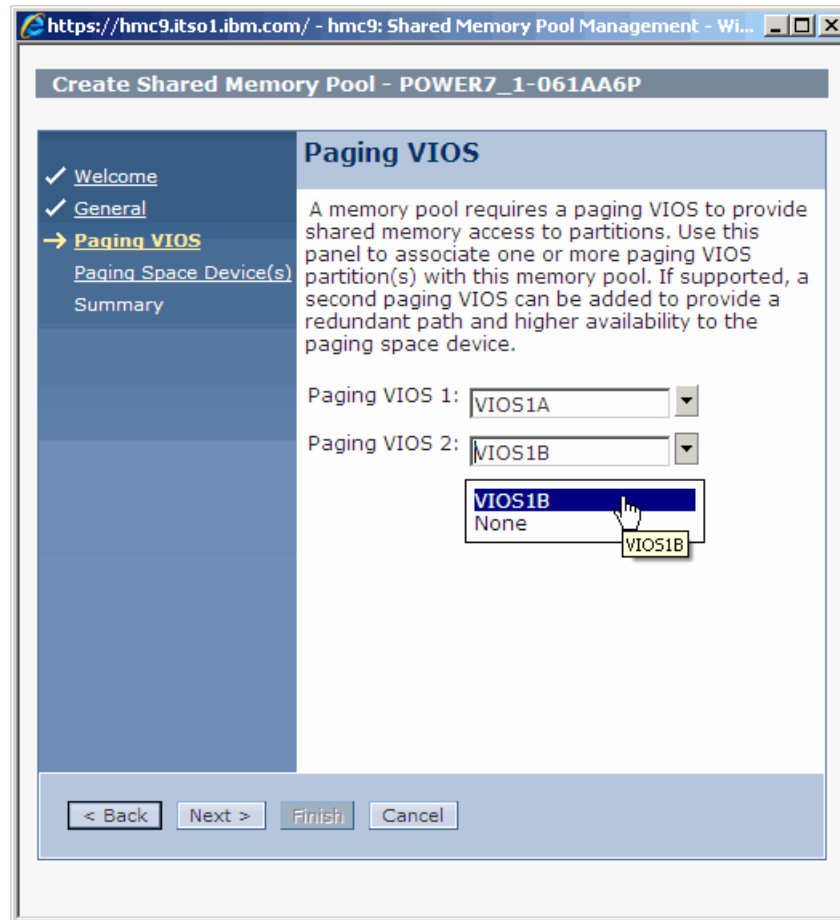

Figure 15-3 Selecting paging space partitions
4. As shown in Figure 15-3, select the Virtual I/O Server partitions that will be used from the pull-down menu and click **Next**.